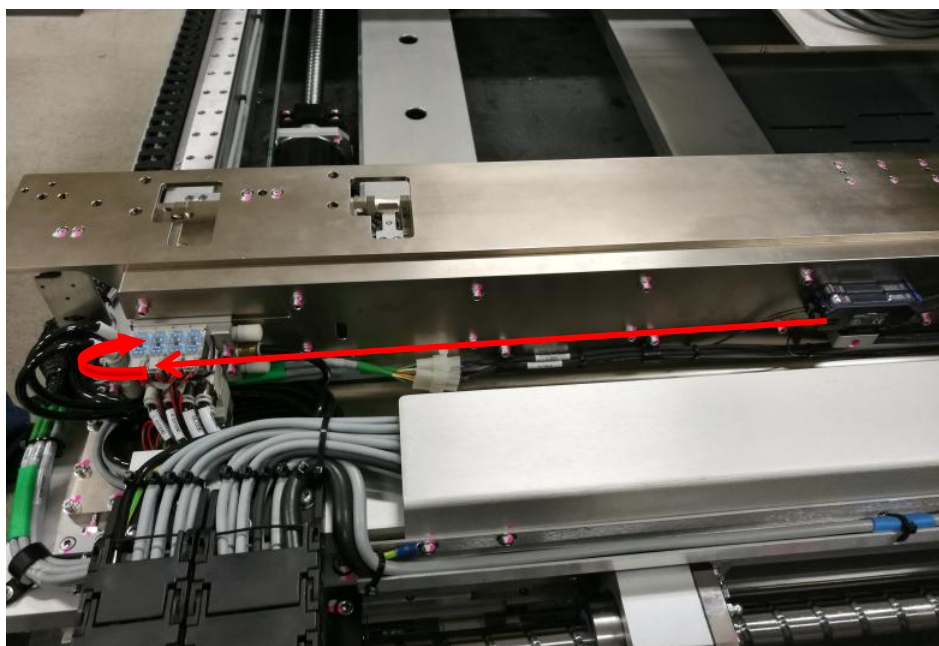
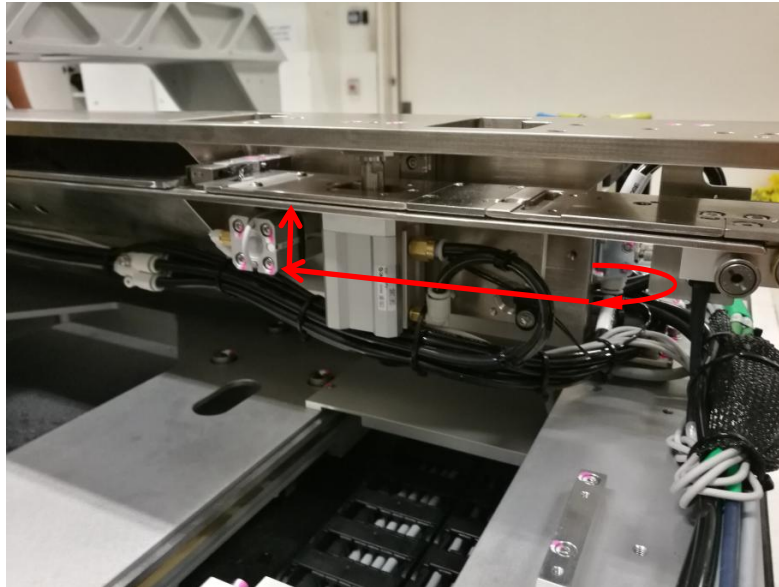

Figure 2 PIP Sensor Cable Removal
Figure 3 PIP Sensor Cable Removal
4. Remove PIP Sensor Cable by refer to below route. May refer to Figure 2 & Figure 3.